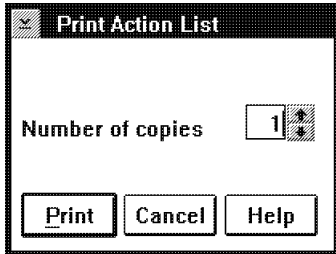

Figure 18. Print Window
2. Select **Print** from the **Selected** pull-down in the object container window. You see the Print window shown in Figure 18 on page 32.